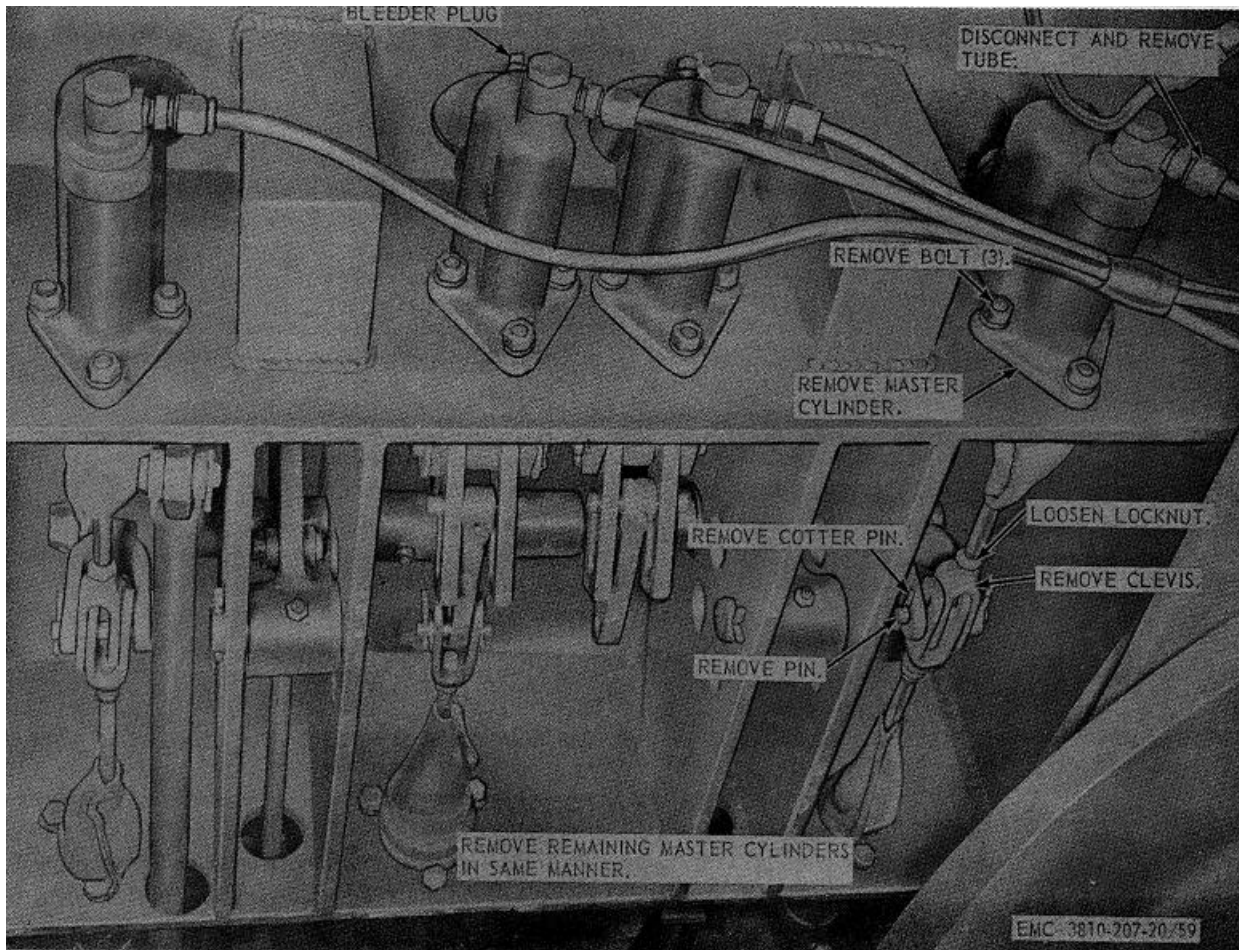

Figure 59. Hydraulic master cylinder, removal and installation.
- (1) Drain master cylinder.
- (2) Remove the master cylinder as instructed on figure 59.
- (1) Install the hydraulic master cylinder as illustrated on figure 59.
- (2) Fill the master cylinder with hydraulic oil (LO 5-3810-207-20).
- (3) Bleed the hydraulic system (par. 133).